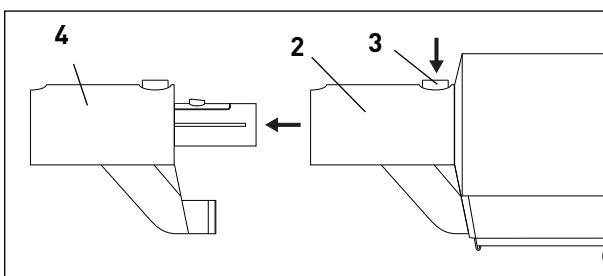

Figure 2
**To release the adapter (figure 2)**, press the adapter release button (3) and pull adapter out.